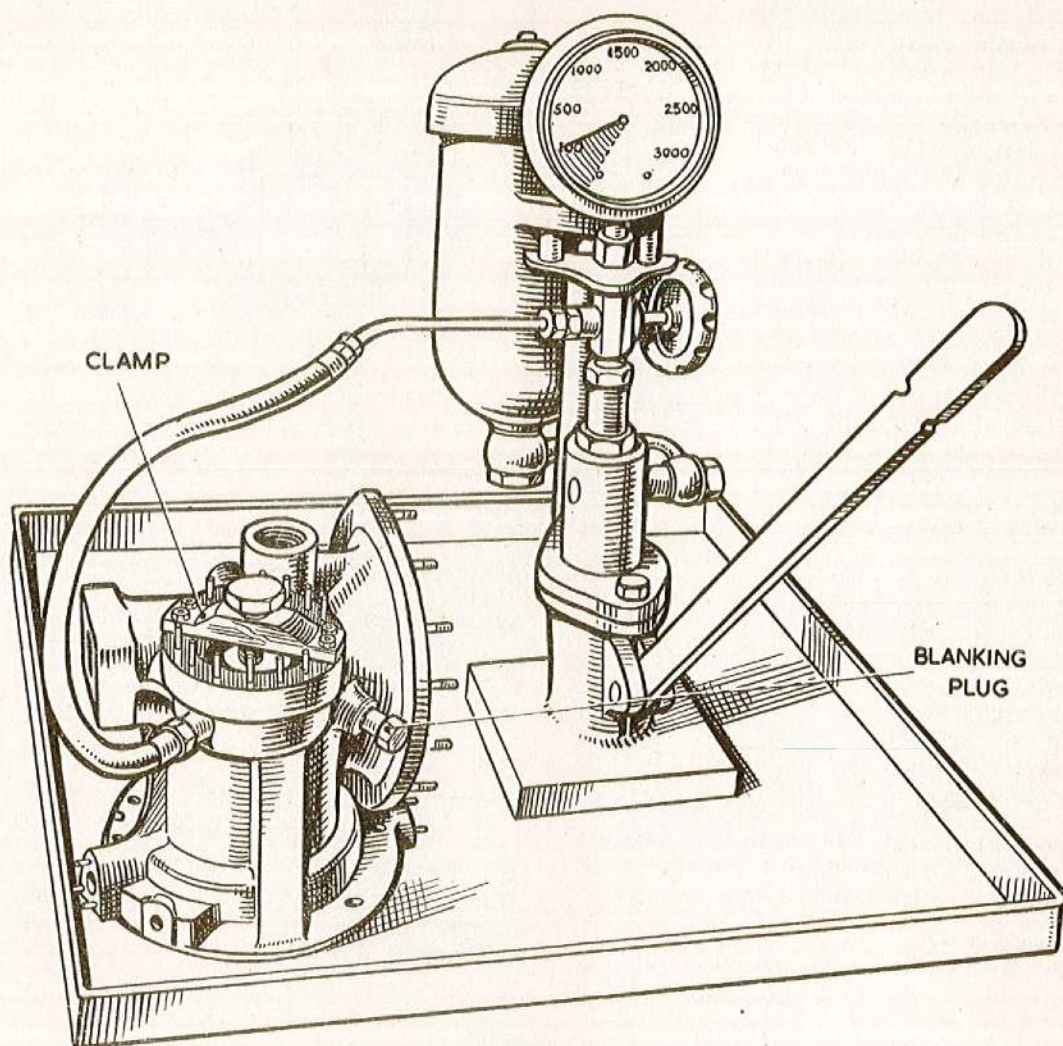

Fig. 31. Control piston liner leak test
3. Blank off the passage way connecting the servo chamber with the orifice chamber using the special plug (*fig. 31 and 2*).
- Op. 5. Connect the pump to the hand pump (*fig. 31*) and apply a pressure of 100 lb. per sq. in. to the pump. The paraffin is supplied to the pump through the normal barometric pressure control connection in the pump housing. The pressure must be maintained for 15 minutes, and in the event of failure, a leak is indicated, and the liner must be removed and a replacement again fitted. The test must be repeated until a satisfactory liner is found.